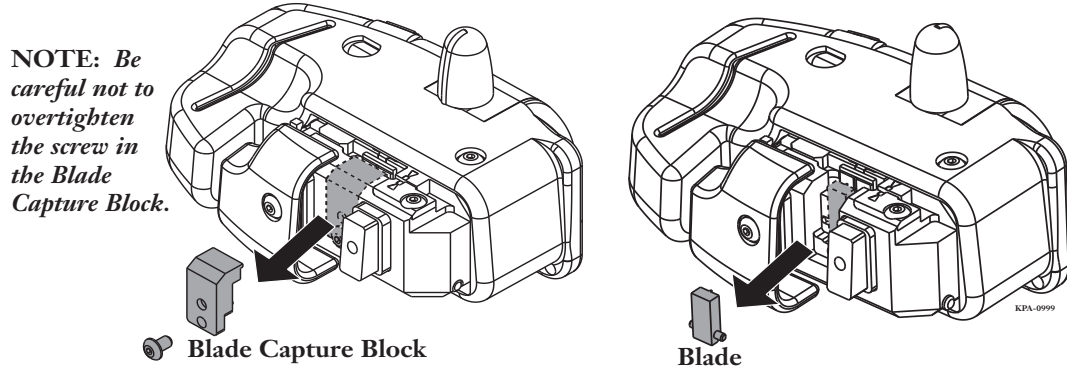

Figure 56 — Remove Blade Capture Block and Blade Assembly
Step 2: Remove the Blade Capture Block (Figure 56) using a $1/16$ -inch Allen wrench.
Step 5: Using tweezers, place the new blade assembly into the cleaver with the blade facing toward the cleaver as shown in Figure 56. **NOTE:** *Be careful not to damage the blade.*